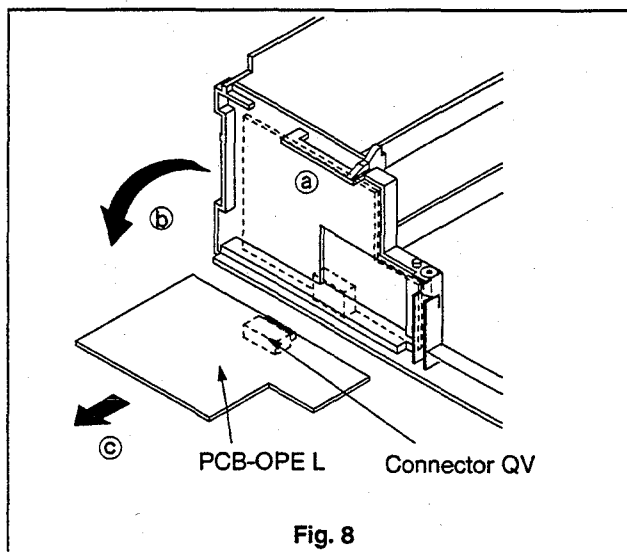

Fig. 8
3. Unfasten the one catch (a) shown in Fig. 8 and rotate the PCB-OPE L in the direction shown by arrow (b) and remove it in the direction shown by arrow (c).